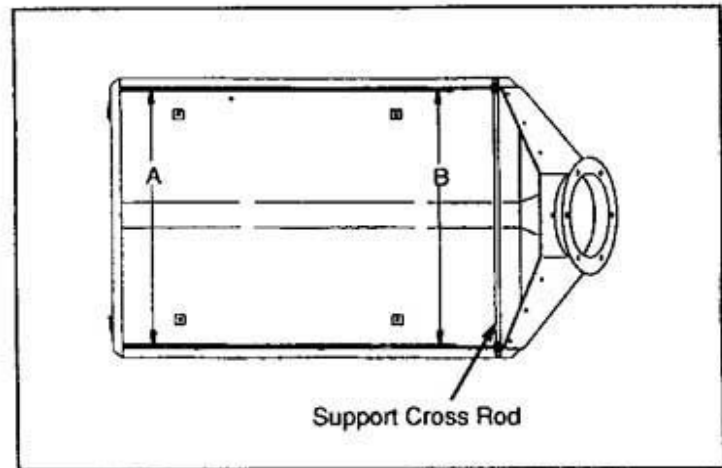

Fig. 29 HOPPER
1. Check that the support cross rod is properly adjusted. The rod should be tightened so dimension "B" is equal to dimension "A". See figure 29.
2. Remove the safety mesh. Note: After installing the constant velocity (CV) joint, it is important that the safety mesh be reinstalled (only remove for installation). The mesh provides required structural support to the hopper. Remove the 5/16 bolts that hold the CV joint to the helicoids. (Models prior to 1997 may have a flex shaft. Flex shafts are no longer available.) Do not use a hammer to remove bolts; the helicoids will bend causing vibration.